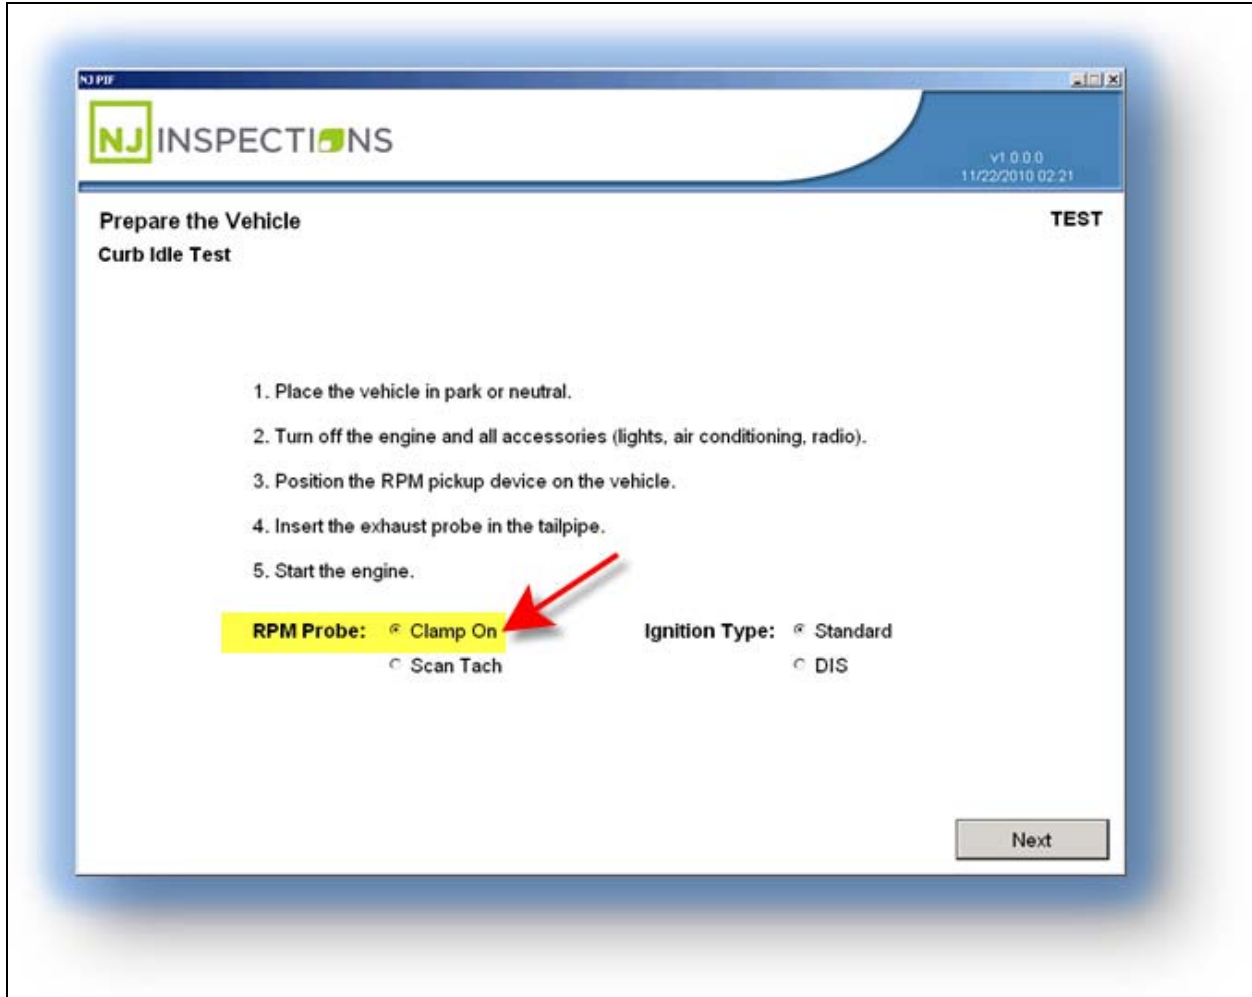

Figure 4-3: “Prepare the Vehicle” application screen
- On the “**Prepare the Vehicle**” application screen (See Figure 4-3 below), please be sure to: